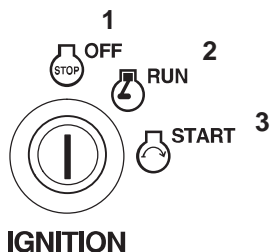

Figure 17
- Let the engine idle for 60 seconds (Fig. 17).
- Turn the ignition key to off (Fig. 17).